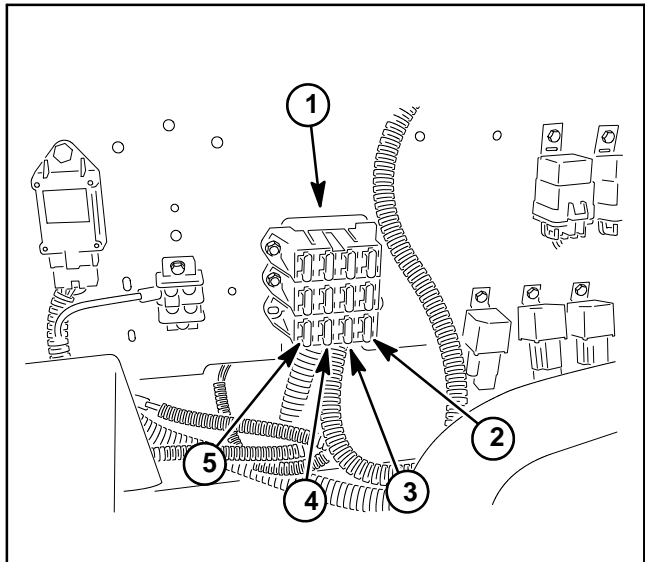

Figure 17
Fuses for the Ultra Sonic Boom system are included in the bottom four (4) fuse holders in the fuse block under the operator seat (Fig. 17).